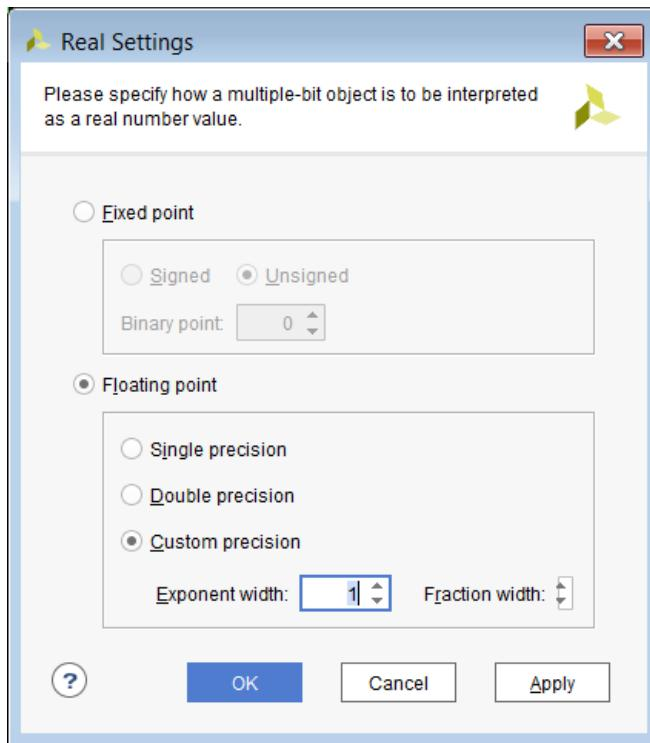

Figure 12-8: Real Settings Dialog Box
- Real radixes cause bus values to be interpreted as fixed point or floating point real numbers, as determined by the settings of the **Real Settings** dialog box, shown in Figure 12-8.